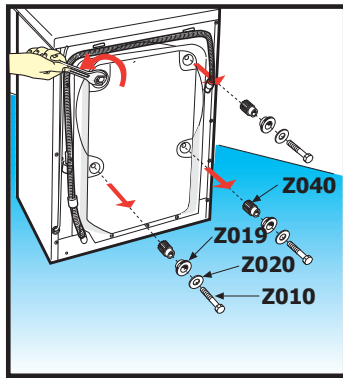

Fig. 1
- Using a 10 mm Allen wrench, remove the 4 screws **Z010** and corresponding washers **Z020**, the spacer bushes **Z019**, and the packing spacers **Z040** (see Fig. 1).